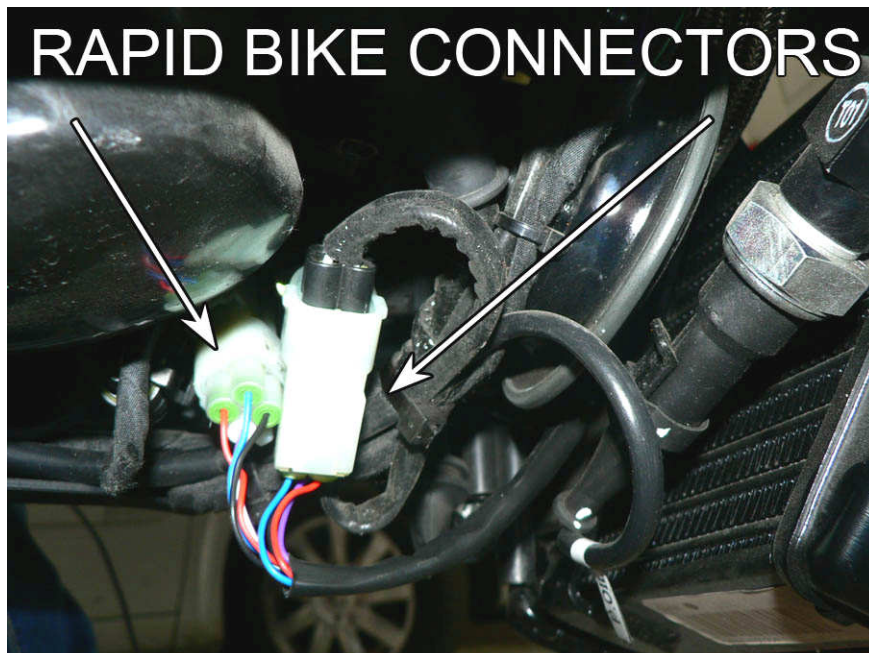

Fig.12
13. Connect the Rapid Bike connectors, marked as **O2 SENSOR 1**, in-line of the stock connectors (**Fig.12**).